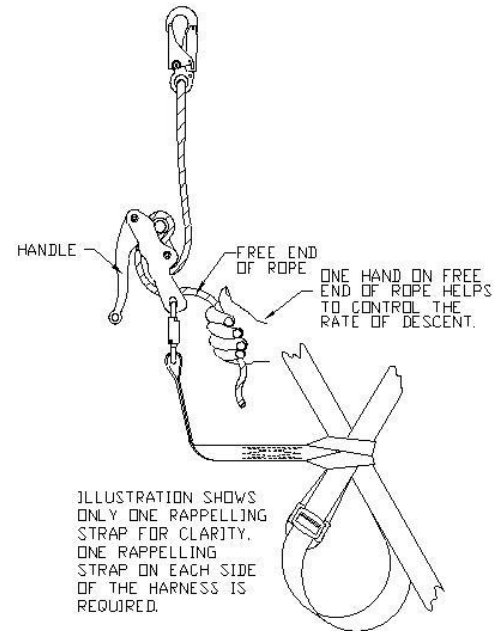

Fig. 3
- Attach the descender to the rappelling loops on the harness with the handle of the descender facing away from the body. This ensures the handle cannot compress against the body. When installation is complete, assembly should look similar to the illustration in Fig. 3.